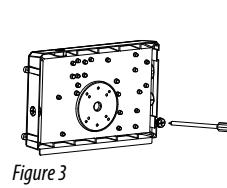

Figure 3
4. If optional sensor is to be installed, use a screwdriver to remove the sensor port plug. Otherwise, leave sensor port plug in place. (Figure 3)